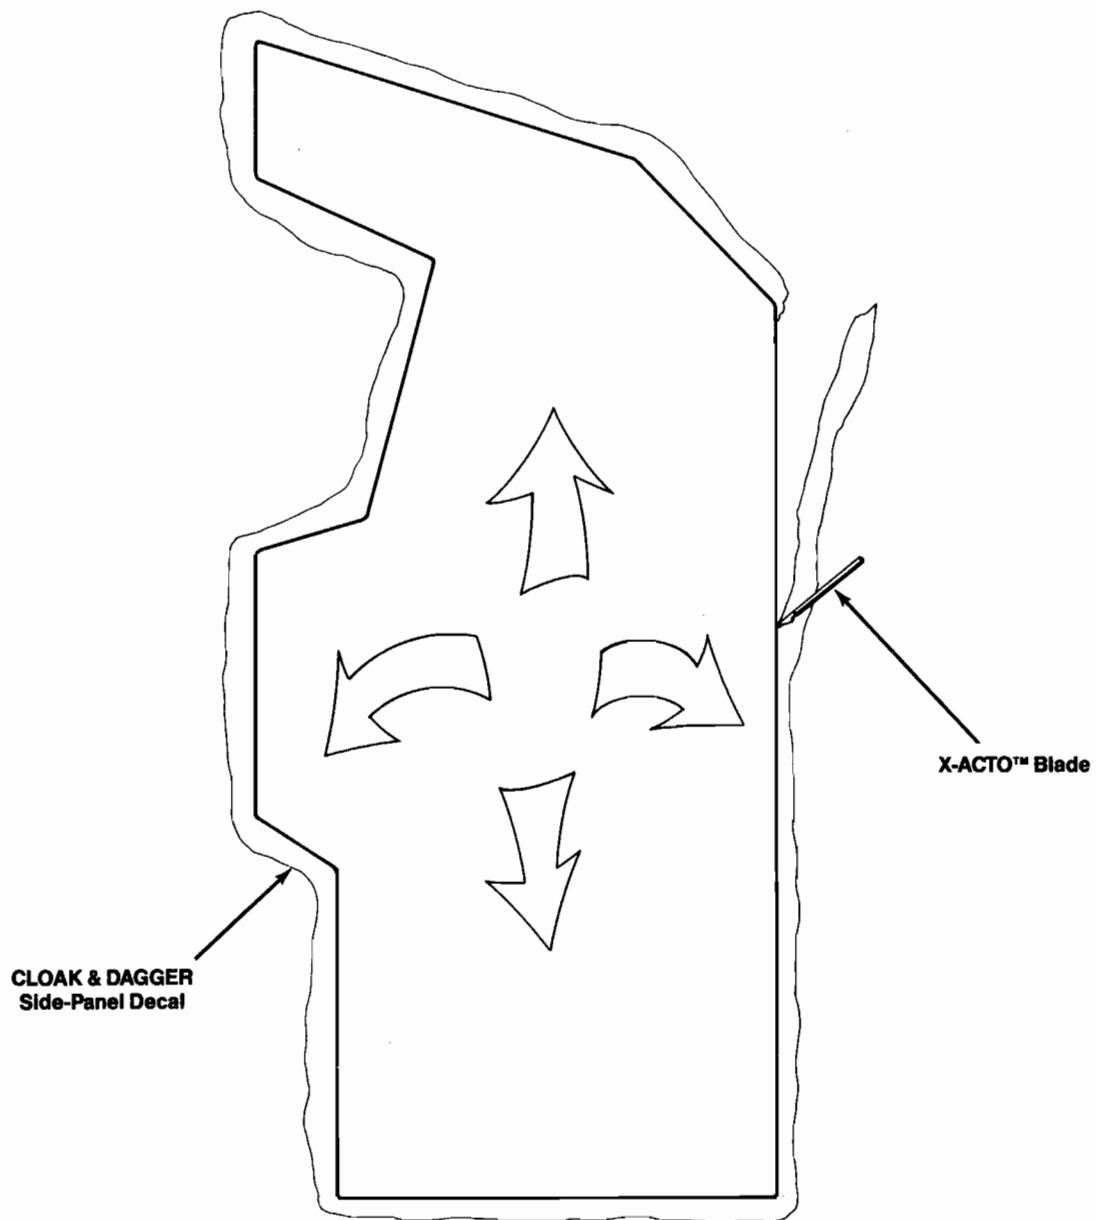

Figure 4 CLOAK & DAGGER Decal Installation
6. Gently lay the decal, sticky side down, in the center of the wet surface of the game cabinet (see Figure 4). Position the decal to ensure that the color graphics are centered on the side of the cabinet.